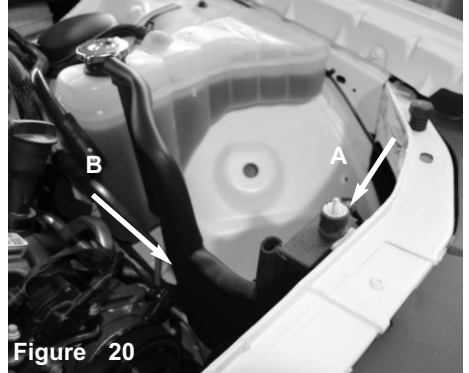

Figure 20
(A) Position the other end of the secondary tube into the primary tube from figure 15 (B) Also, Align the Bracket on the secondary tube to the vibramount on the radiator support from figure 20.